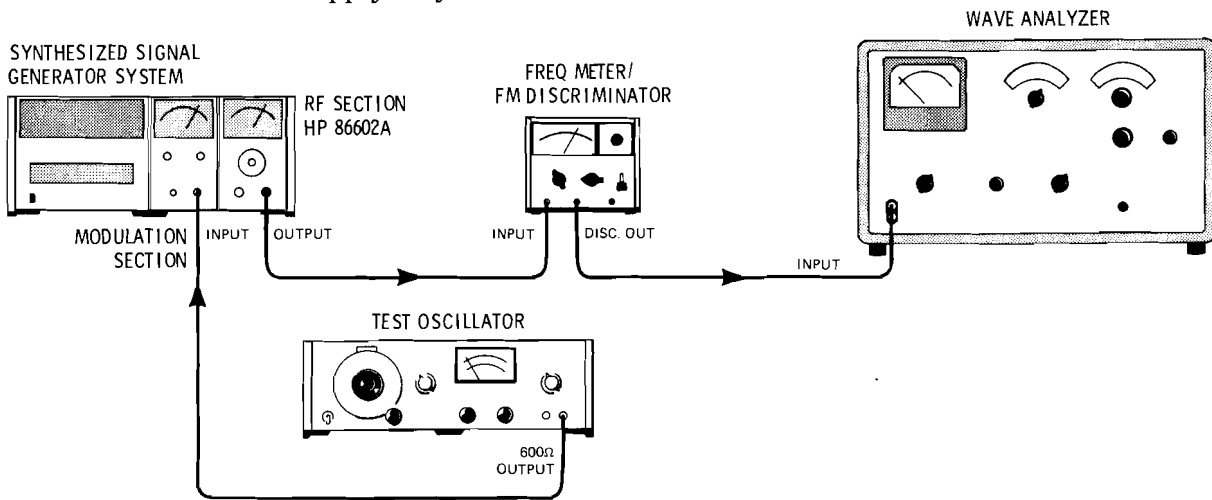

Figure 4-12. Frequency Modulation Distortion Test Setup
1. Connect equipment as illustrated in Figure 4-12.